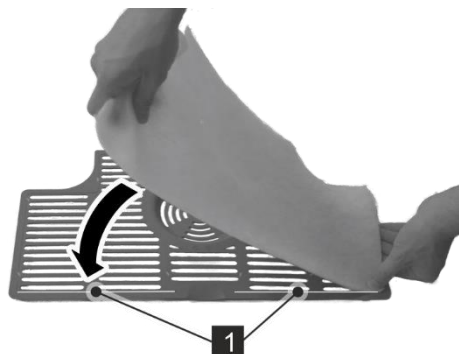

Fig. 30: Attaching the cleaning filter
3. ➔ Stick the new cleaning filter onto the intake grille with the adhesive side along the marking (Fig. 30/1).